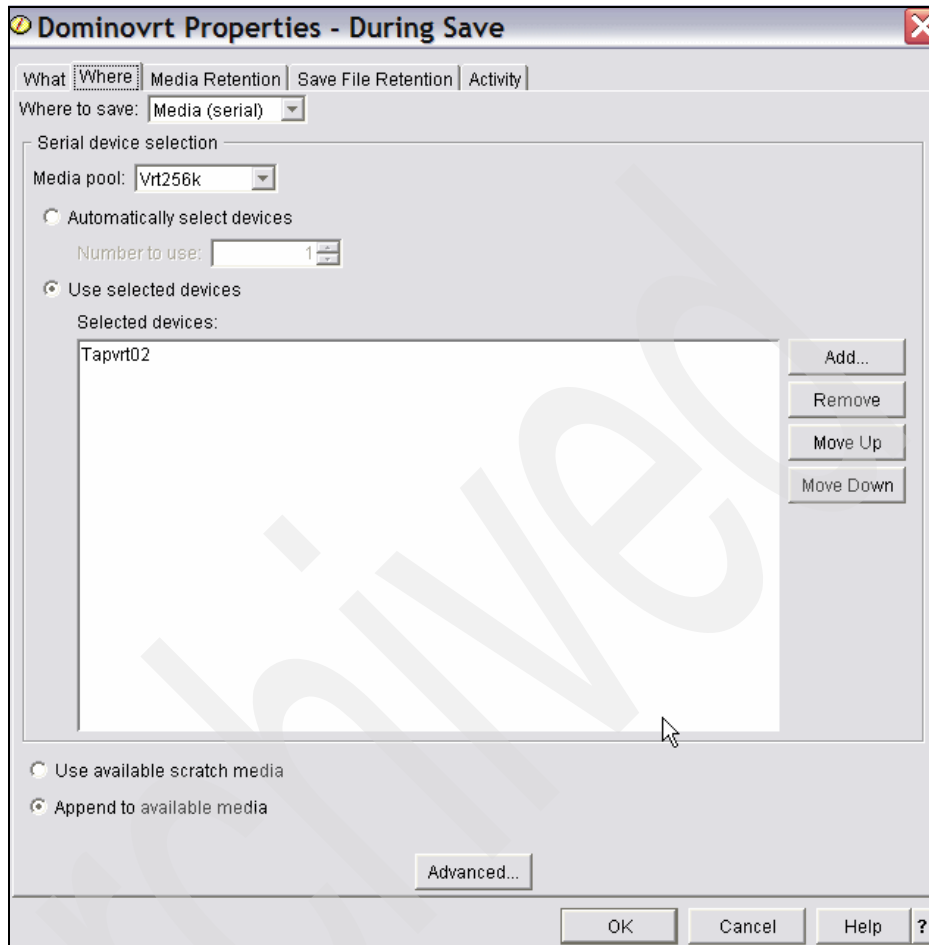

Figure 5-61 BRMS move policy change, during - what tab - advanced
7. Click **Advanced** in the window shown in Figure 5-61 on page 247.
9. Leave the During Save panel Figure 5-61 on page 247 by clicking **OK**.